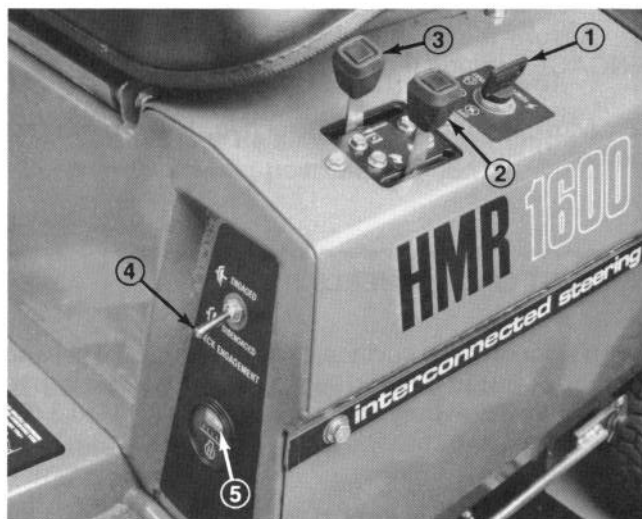

Figure 10
Throttle Control (Fig. 10) — Throttle control connects to and operates carburetor mounted throttle. Control has two positions: SLOW and FAST.
Choke Control (Fig. 10) — Choke control connects to and operates carburetor mounted choke. Choke may not be required when starting a warm engine.
Ignition Switch (Fig. 10) — Switch is part of battery ignition system, and it has three positions: OFF, ON and START. Key automatically returns to ON position from START position when released after engine starts.
Deck Engagement Switch (Fig. 10) — Toggle switch (Pull out and up to engage) releases blade brake and engages electromagnetic clutch to drive cutter blades. Operator must be on the seat to engage or operate cutter deck.
Hour Meter (Fig. 10) — Indicates the total hours of machine operation. The Hour Meter starts to function whenever the key switch is rotated to "ON".
1. Assure the deck engagement switch is in DISENGAGE position (Fig. 10).